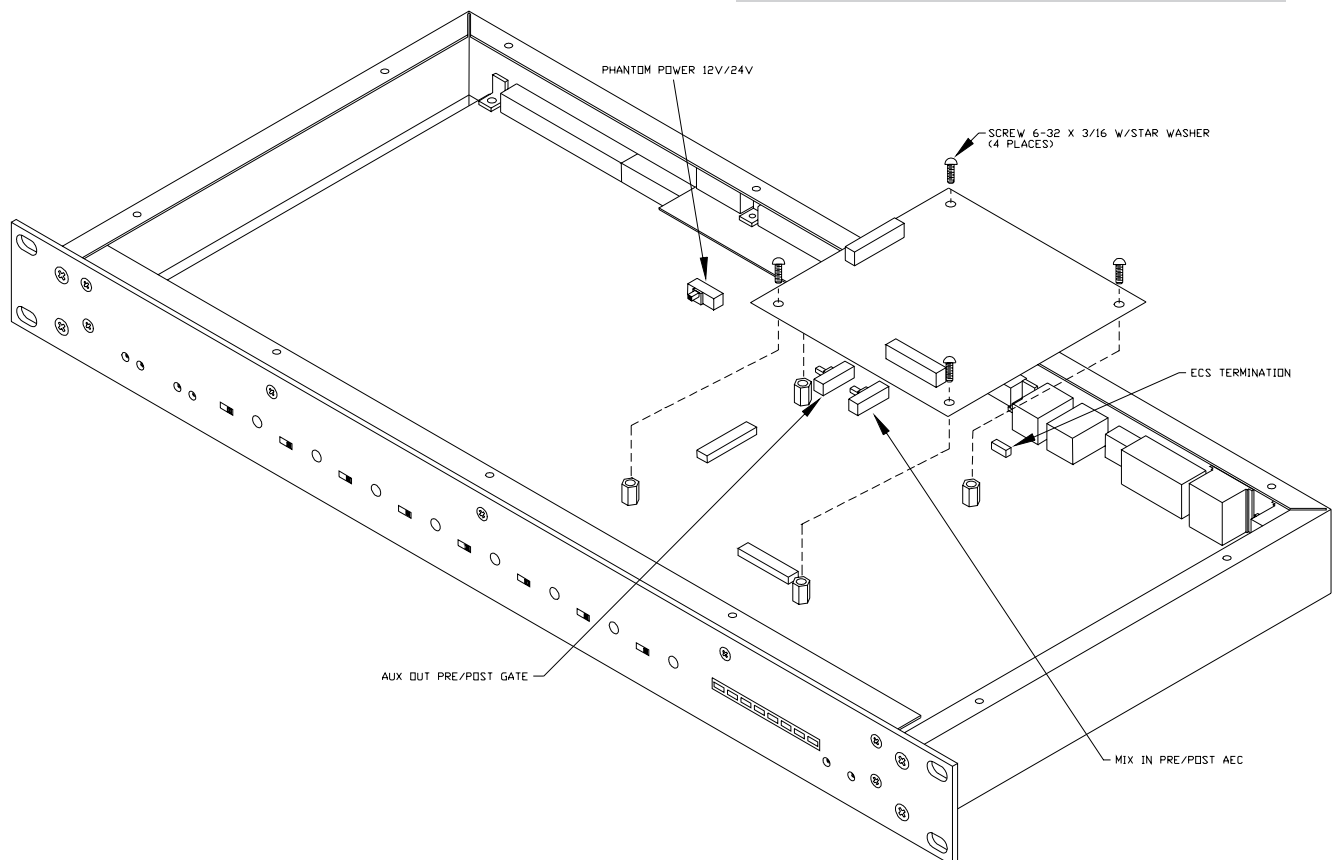

Figure 11. ECA 2 Installation with ECM 82e Phantom Power and network termination jumper locations
- ① **MIC INPUTS:** These balanced Inputs connect MIC 1-MIC 4 on one 12-pin Euroblock, and MIC 5-MIC 8 on another 12-pin Euroblock. See page HW Manual-12 for cable wiring.
- ② **POST-GATE OUTPUTS:** One 8-pin Euroblock delivers MIC 1-MIC 4; the other 8-pin Euroblock delivers MIC 5-MIC 8.
- ③ **PRE-GATE OUTPUTS:** One 8-pin Euroblock delivers MIC 1-MIC 4; the other 8-pin Euroblock delivers MIC 5-MIC 8.
- ④ **MIX IN:** This input can be mixed as either PRE-AEC or POST-AEC. For single AEC applications use the PRE-AEC setting (factory default), (see figure 11, next page).
- ⑤ **MIX OUT:** This Post-Gate Output is program Selectable as either a Pre-Echo-Canceller or Post-Echo-Canceller, and is typically connected to one of the MIX INPUTS on the ECB 62e Base. *For Pre-Echo Cancellation, Select Bypass in the Echo Canceller box on the Mixer’s page in RaneWare.*
- ⑥ **AUX OUT:** This Output is switch selectable as either a Post-Gate or Pre-Gate before the Echo Canceller. This switch is set to “Post-Gate” at the factory. If required, remove the top cover and look for the switch marked “S1” in the middle toward the back of the circuit board. Set the switch according to the silkscreen and replace the cover and screws.
- ⑦ **E/C REF:** Echo Canceller Reference—This Input typically connects to the Port 1 MONO Output of the ECB 62e Base when an ECA 2 Echo Canceller is used within this Mixer. The average signal level at this input must be between -10 and 0 dBu.
- ⑧ **ECS INTERFACE—EXP OUT:** This RJ12 mod jack (and supplied cable) sends Expansion data, connecting to the EXP IN jacks on subsequent ECM 82e Mixers.
- ⑨ **ECS INTERFACE—EXP IN:** This RJ12 mod jack (and supplied cable) receives Expansion data, connecting to the ECS EXPANSION jack on the ECB 62e Base or the EXP OUT jacks on upstream ECM 82e Mixers.
- ⑩ **ECS INTERFACE—DEVICE ADDRESS:** Selects the Mixer number 1 thru 6. The Device Address is set using a binary code determined using the following table. For example, turning ON the switches labeled ‘1’ and ‘2’ on the chassis yields address ‘3’. In the following table, 0 means switch *down* (OFF), 1 means switch *up* (ON).